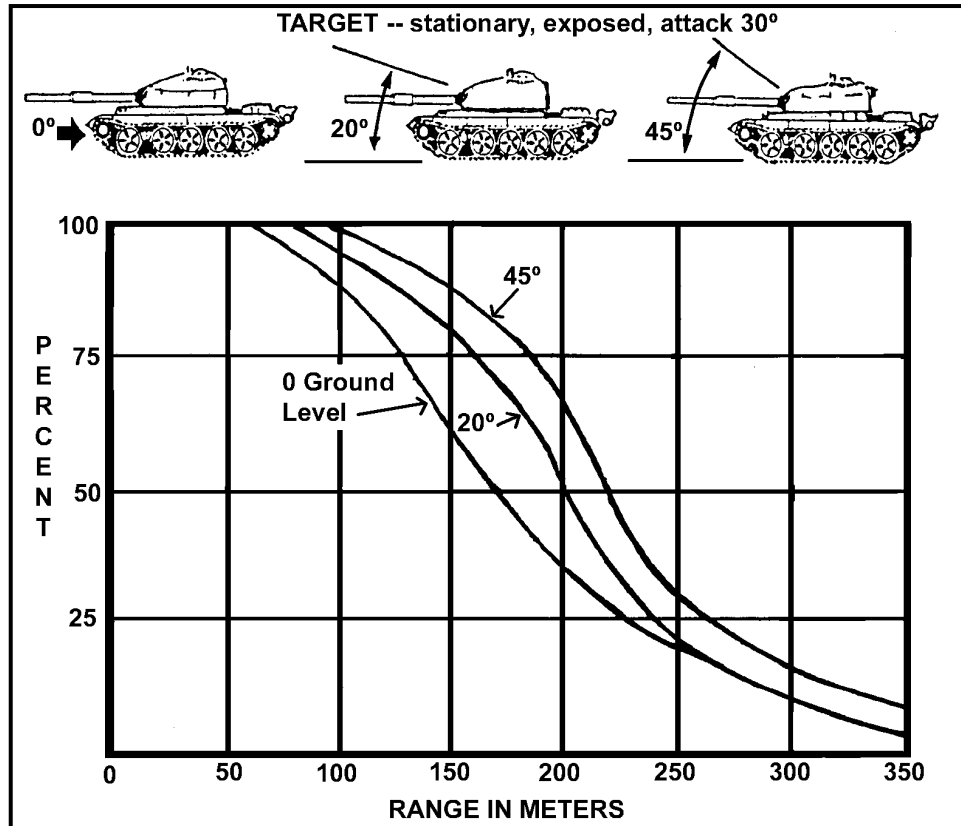

Figure 7-4. Probability of achieving a hit at different angles
(4) Light and medium recoilless weapons obtain their most effective short-range antiarmor shots by firing from upper stories, or from the flanks and rear. When firing at main battle tanks, these weapons should always be employed against weaker areas in volley or paired firing. They normally require multiple hits to achieve a kill on a tank. Flanks, top, and rear shots hit the most vulnerable parts of armored vehicles. Firing from upper stories protects the shooter from tank main gun and coaxial machine gun fire since tanks cannot sharply elevate their cannons. The BMP-2 can elevate its 30-mm cannon to engage targets in upper stories. The BTR-series armored vehicles can also fire into upper stories with their heavy machine gun.
(5) Modern threat infantry fighting vehicles, such as the BMP-2 and the BTR-80, have significantly improved frontal protection against shaped-charge weapons. Many main battle tanks have some form of reactive armor in addition to their thick armor plate. Head-on, ground-level shots against these vehicles have little probability of obtaining a kill. Even without reactive armor, modern main battle tanks are hard to destroy with a light antiarmor weapon.
(6) The most effective method of engagement for hitting and killing an armored vehicle is to fire from an elevated position. A 45-degree downward firing angle doubles the probability of a first-round hit as compared to a ground-level shot (Figure 7-4).